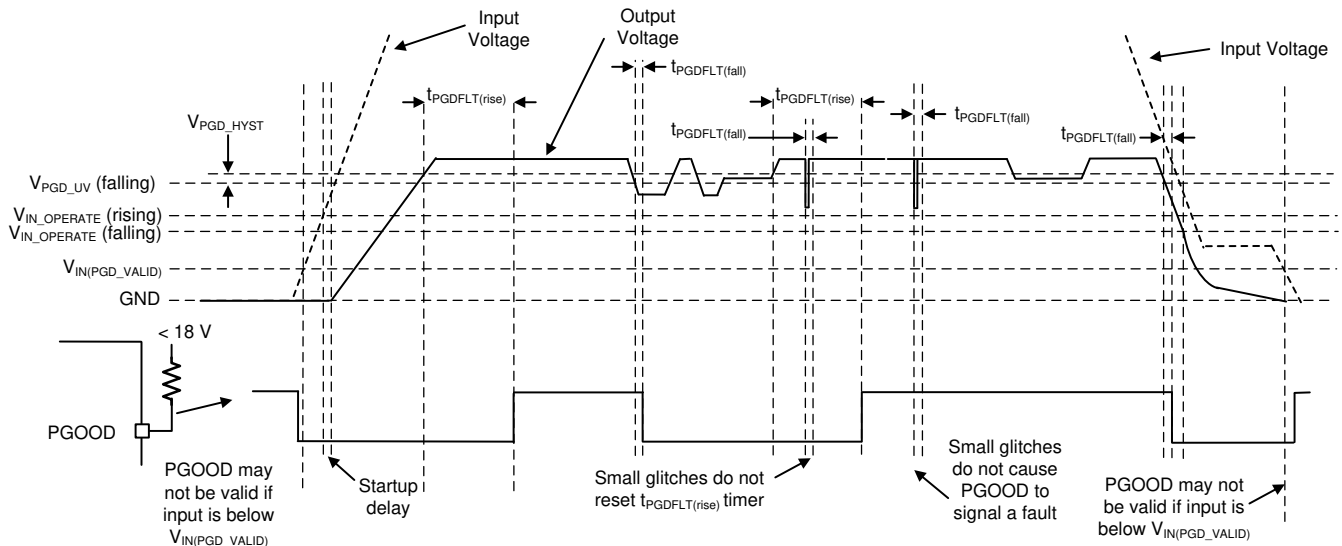

図 8-5. PGOOD Timing Diagram (Excludes OV Events)
The PGOOD function is implemented to replace a discrete reset device, reducing BOM count and cost. The PGOOD voltage goes low when the feedback (FB) voltage is outside of the specified PGOOD thresholds (see 図 7-8). This can occur during current limit and thermal shutdown, as well as when disabled and during normal start-up. A glitch filter prevents false flag operation for short excursions of the output voltage, such as during line and load transients. Output voltage excursions that are shorter than $t_{PGDFLT(fall)}$ do not trip the PGOOD flag. Refer to 図 8-5 to best understand PGOOD operation.